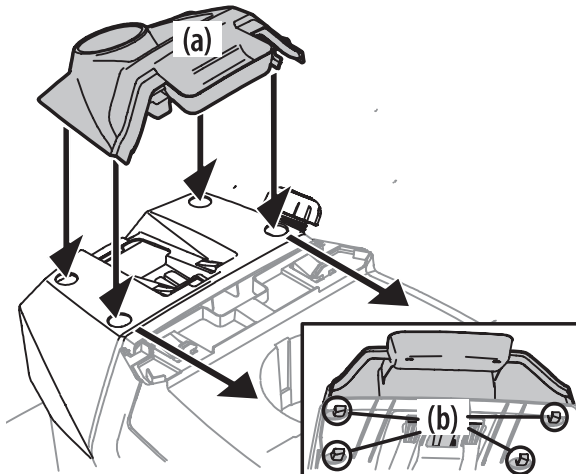

Figure 13
To install the dash cap (a), line up the tabs (b) on the dash cap (a) with the holes in the upper dash as shown in Figure 13. Slide the tabs (b) into the holes in the upper dash and push forward on the dash cap to lock into place.
**NOTE:** Be sure to press on the lower part of the dash cap (a) facing the operator position to ensure the lower tabs on the dash cap are in place. See Figure 13.